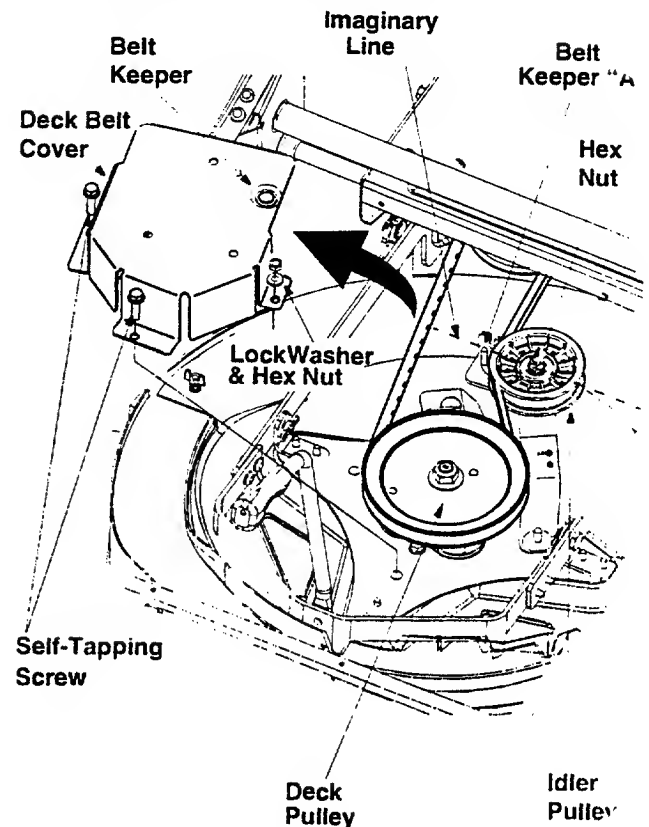

Figure 23
- Using a 9/16" wrench, loosen the hex nut on the idler pulley. See Figure 23.
- Place the new belt around the deck pulley and the engine pulley making sure that the belt is routed inside the belt keepers. There are two belt keepers under the grasscatcher, one on the idler and the other under the deck belt cover. See Figure 23.
- Make sure to align the belt keeper in line with the frame. See Figure 23.
belt from around the idler and then the transmission pulley. See Figure 23.